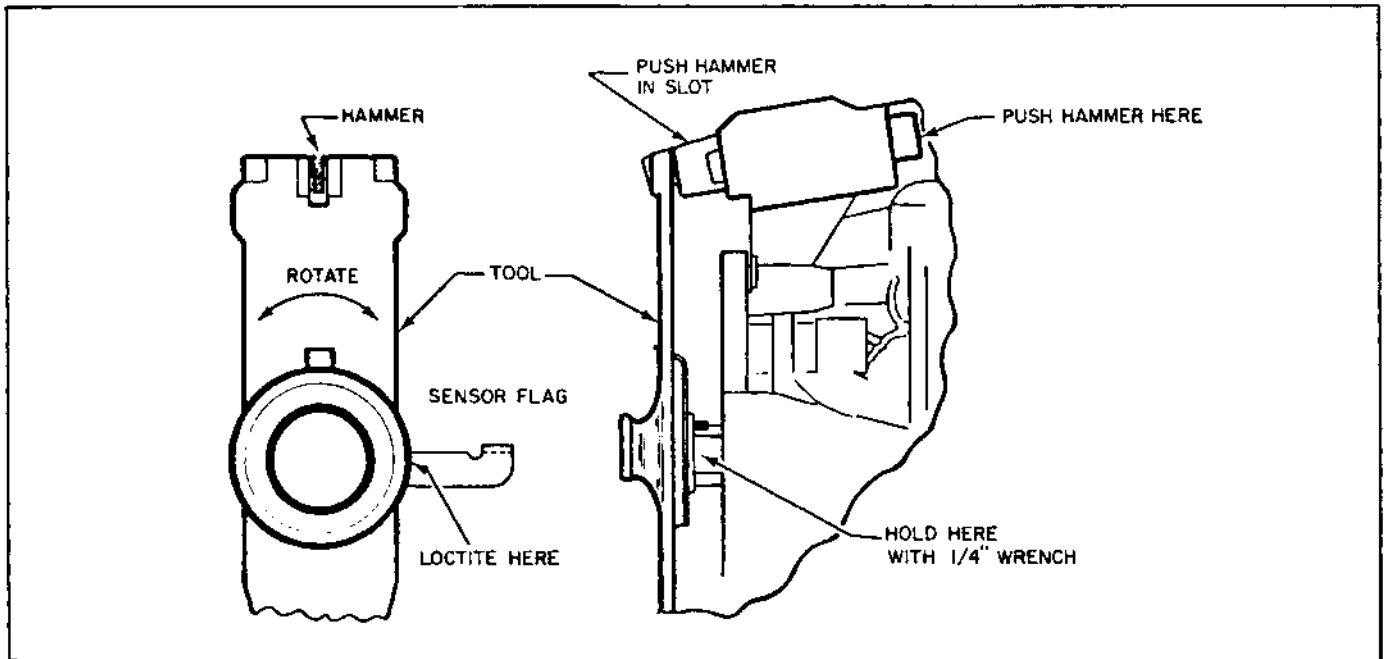

Figure 3-13. Printwheel-to-Hammer Alignment
3.4.1.4.2 Printwheel-to-Hammer. Refer to Figure 3-13. Proceed as follows:
Refer to Figure 3-13. Manually push the hammer forward lightly, until its face enters Hammer Slot B2 on the tool. If the hammer slides easily into the tool slot without contacting the sides of the slot, printwheel-to-hammer alignment is correct; remove the carriage home sensor block and skip to Step 5. If the hammer face contacts the tool surface, continue with this procedure.